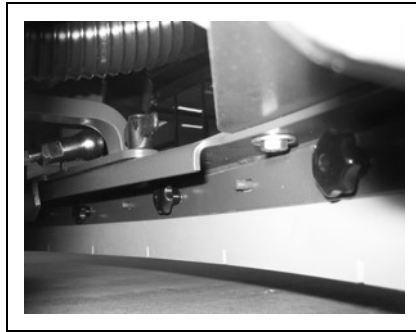

Fig. 35
The squeegee is also equipped with front sealing and support strips and clamping rail (Fig. 35).
6. Disassemble the front sealing strip (Fig. 35) in the same way.